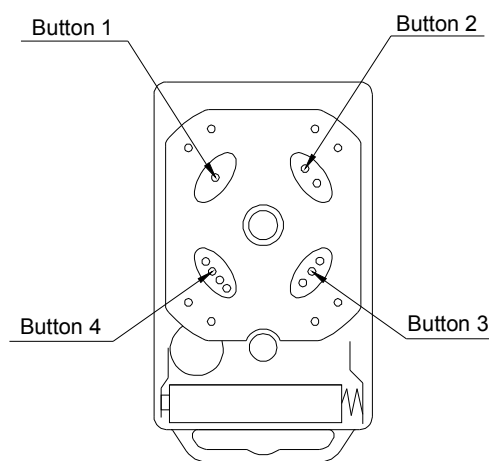

Fig.8 Remote control
- The remote control works in a single channel mode. It has four buttons. See Fig.8 Remote control. The function of button 1, button 2, and button 3 are the same. With each press of the remote control button which has been programmed, the gate will close, stop, open or stop cycle. Button 4 is available for pedestrian mode. Note: if you canceled the pedestrian mode, the function of button 4 is same as the other three buttons.